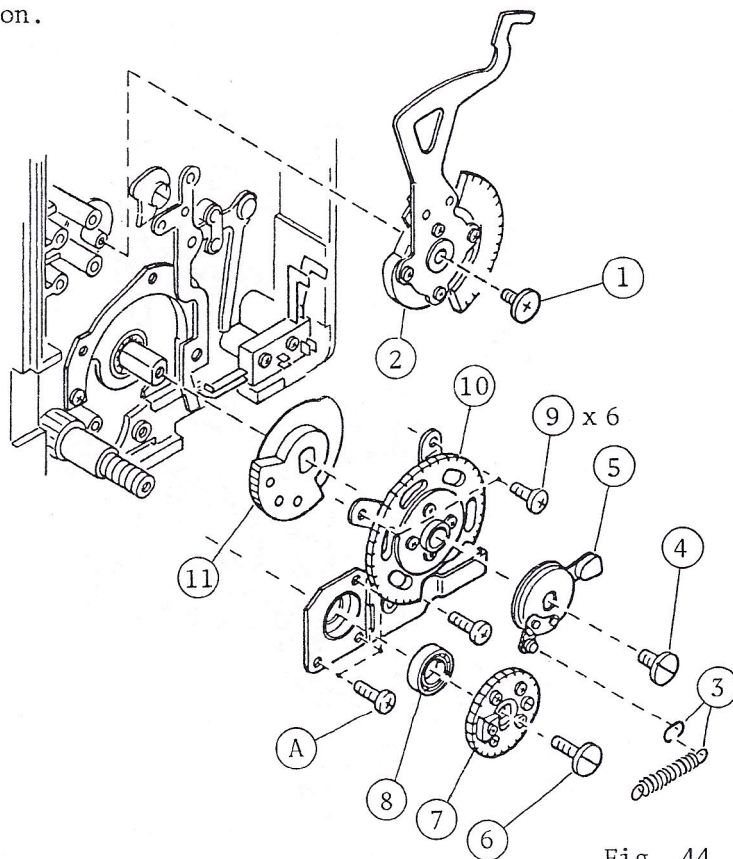

Fig. 44
3. Carefully rotate the left side focusing knob until the (A) screw of the first M-gear base plate appear completely.
4. Arabic numeral in a circle as shown in Fig. 44 indicates the procedure of disassembly.